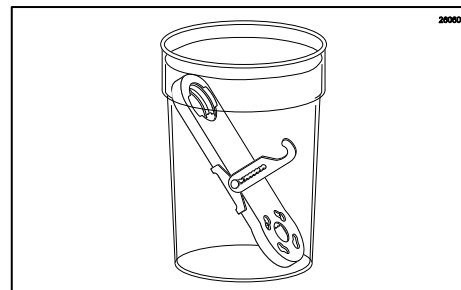

Figure 30
2. Place the Drive Assembly Gear Box in warm water and soak for at least 5 minutes. Proceed with Steps 3 and 4 in the meantime. (See Figure 30.)